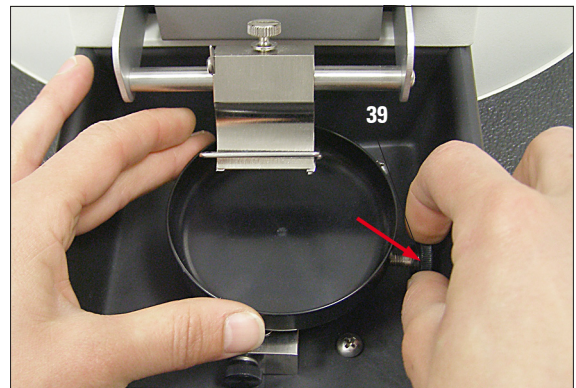

Fig. 22
- The anterior knurled screw, allows for orientation of the specimen vice assembly, +/- 8 degrees. To change orientation, loosen the screw and press on either side of the tension clamp. (refer also to Fig. 22).
- Hold the specimen tray horizontally and clamp it into place using the knurled screw (Fig. 22).